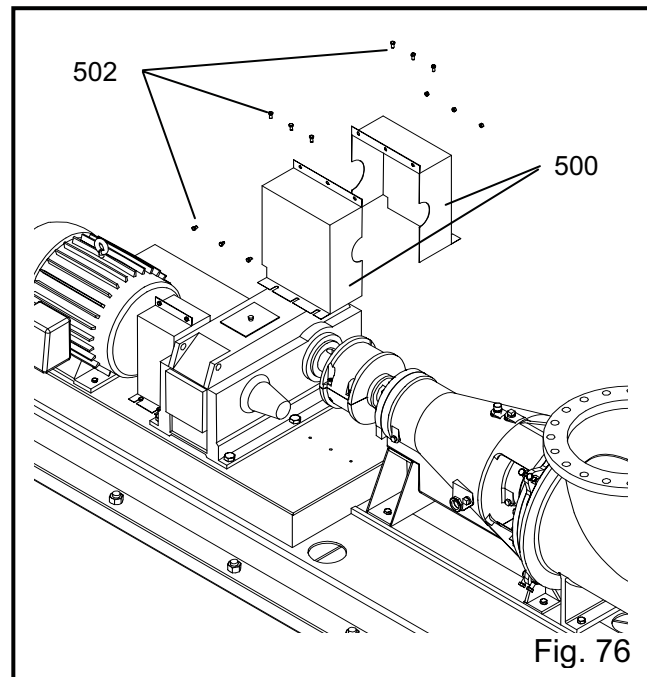

Fig. 76
28. Bolt the two halves of the coupling guard (500) together and install over the coupling. Fasten the guard to the sub-base using screws (502), see Fig. 76.